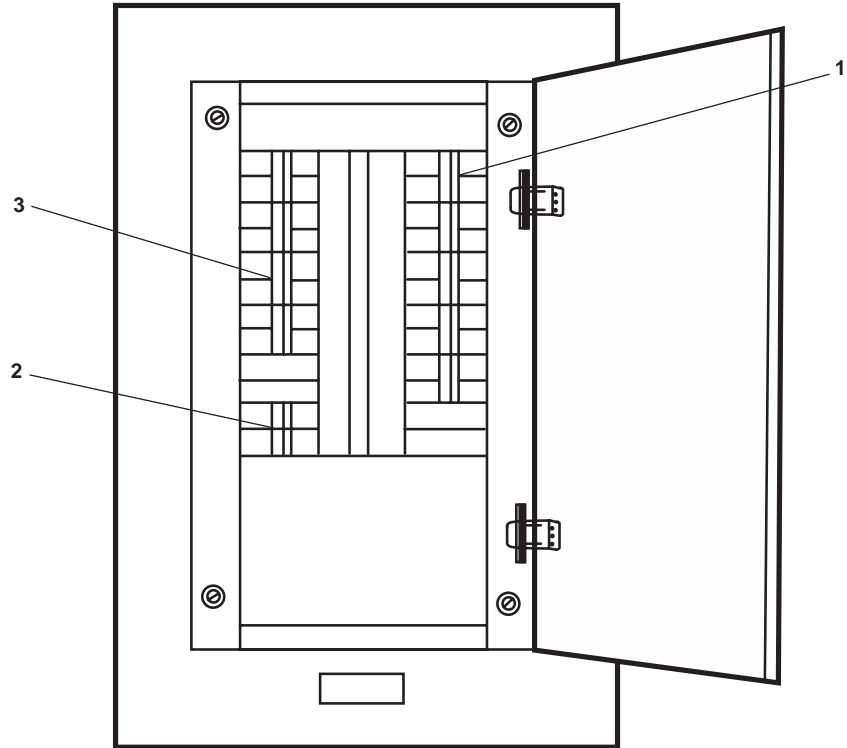

Figure 20. 120V Distribution Panel No. 1
- a. REFRIGERATOR. (figure 20, item 1)
- b. GAYLORD CONT CABINET. (figure 20, item 2)
- c. FREEZER. (figure 20, item 3)